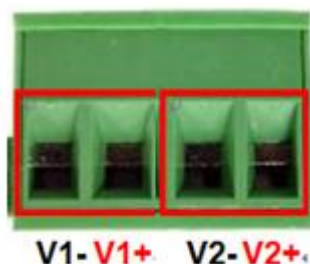

Figure 2.7
- Insert the positive and negative wires into the PWR1 (V1+, V1-) and PWR2 (V2+, V2-) contacts on the terminal block connector as shown below in *Figure 2.7*.